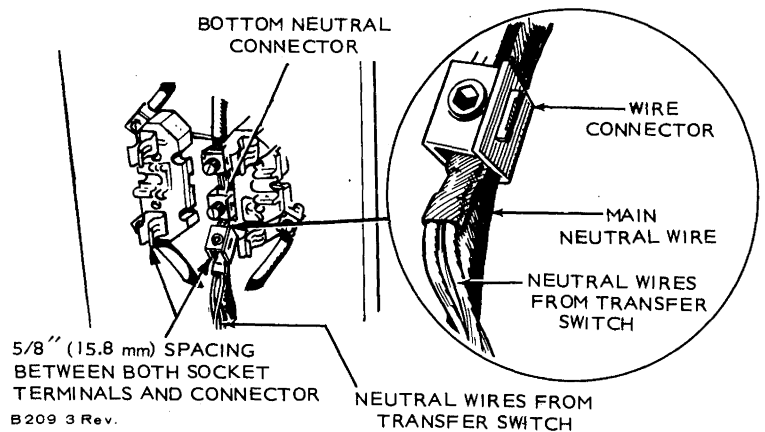

FIGURE 8
- 8** A. Loosen bottom neutral conductor in meter box (Figure 8) and pull neutral wire forward.
- C. Install wire connector (Figure 8). Note spacings.
- E. Hang transfer switch from meter box with a wire hook and connect switch neutral to wire connector (Figure 8).